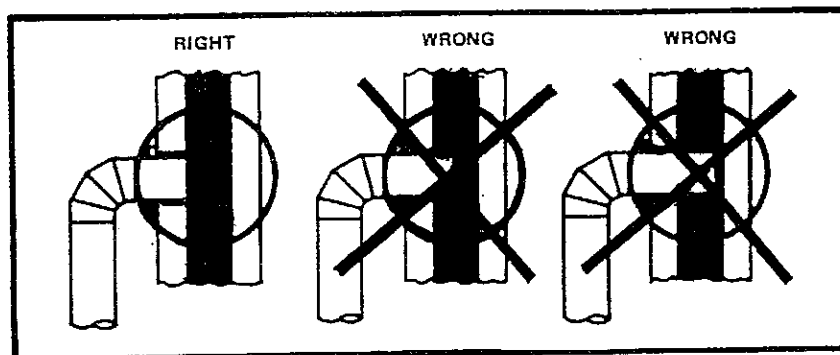

FIG. 8
4. The pipe cannot extend into the chimney flue. (Fig. 8).
1. The connection pipe may be pushed into the chimney too far, stopping the draft (Fig.8).